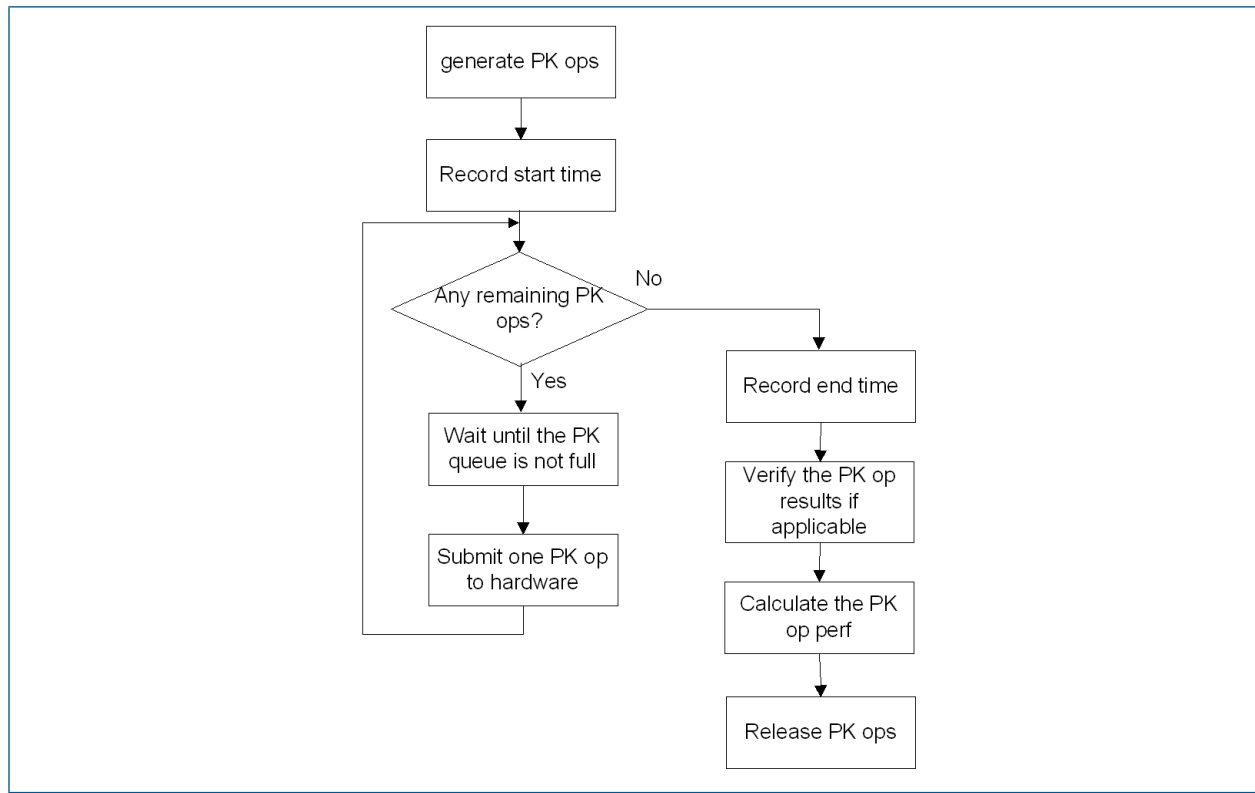

Figure 7-2. PK Performance Flow Diagram
2. Perform the flow shown in Figure 7-2 for PK operations.